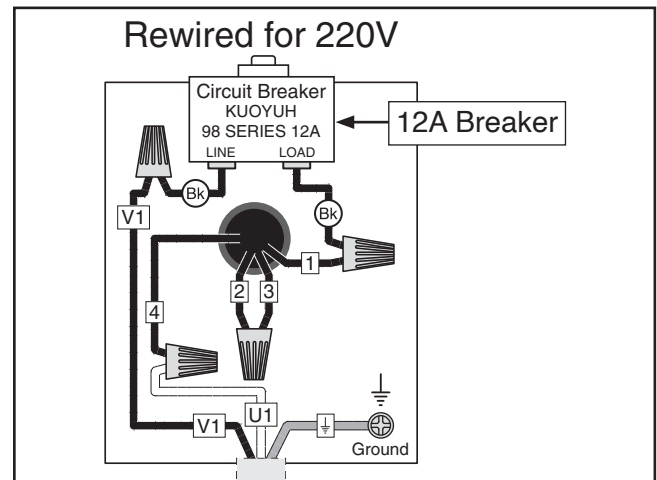

Figure 11. Main motor rewired for 220V operation.
4. Connect main motor wires with wire nuts, as shown in **Figure 11**. Once snug, wrap electrical tape around each wire nut and connected wires to reduce likelihood of wire nut vibrating loose during motor operation.
5. Replace pre-installed 25A circuit breaker with a 12A circuit breaker (see **Figure 11**).